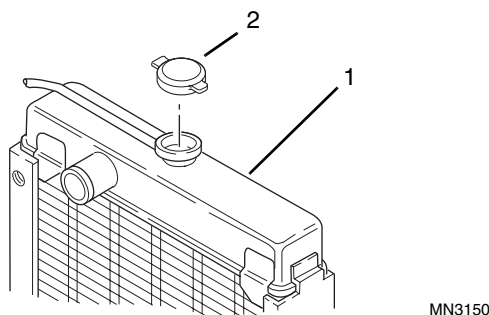

Figure 10-3 Check Engine Radiator Coolant Level
3. Periodically check the level of coolant in the radiator (when the system is cool) by slowly turning the radiator cap to the first stop to release any pressure in the system. Remove the cap completely and fill the radiator (Fig. 10-3, 1) with coolant if necessary and replace the cap.